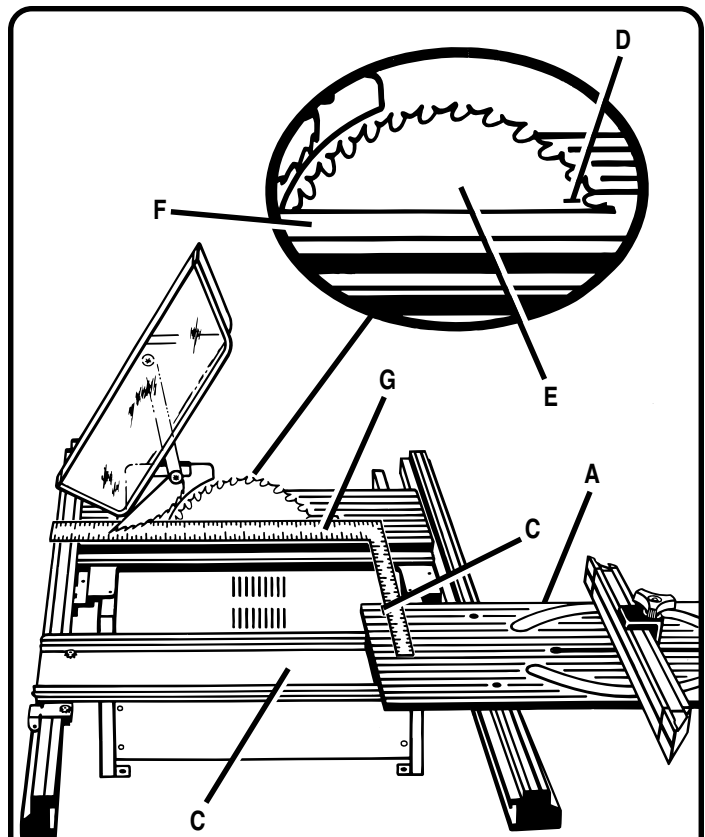

Figure 50: Miter Table Alignment
2. Slide miter table (A) to the front of miter base (B) as far as it will go. Place a reference mark (C) near the end of the miter table as shown in figure 50.